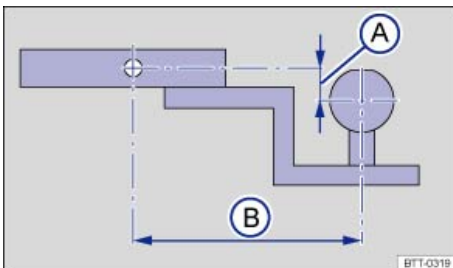

Fig. 100 Dimensions of the ball mount support.
⇒ **fig. 100 (A)**, and the pin-to-ball distance **(B)**.